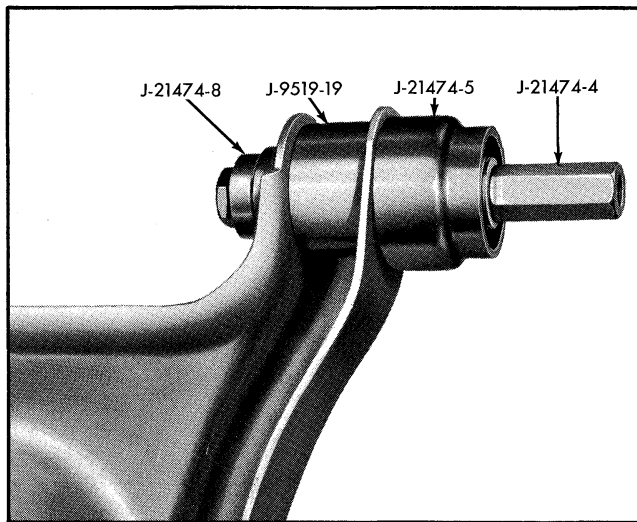

Fig. 3-18 Removing Rear Bushing from Front Lower Control Arm
3. Remove bushing using tool J-21474 as shown in Fig. 3-18.